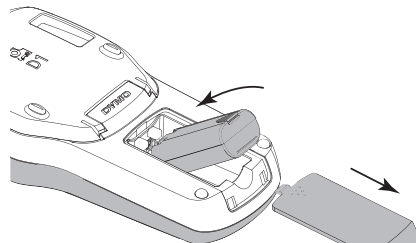

Figure 1
- 1 Slide the battery compartment cover away from the label maker. See Figure 1.
- 2 Insert the battery into the battery compartment as shown in Figure 1.
- 2 Slide the battery compartment cover away from the label maker. See Figure 1.